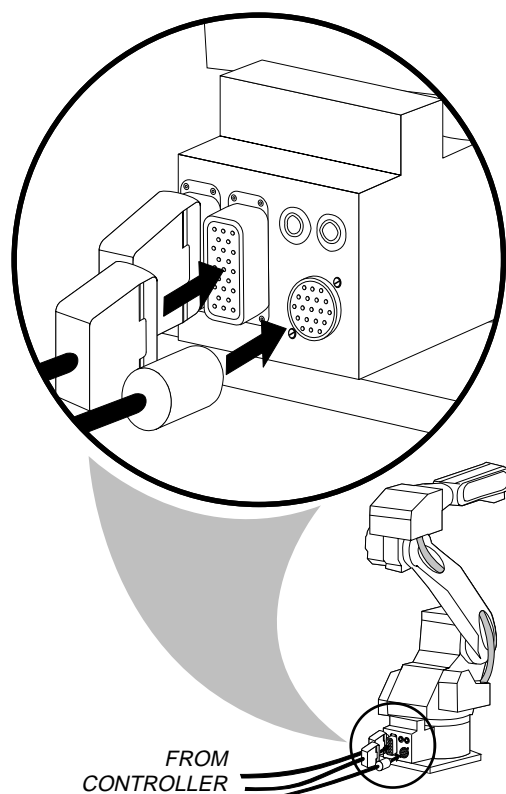

Figure 4-8 Connecting Robot to the Controller
3. Carefully engaging connectors, connect cables (labeled 1BC, 2BC, and optional 3BC) to 1BC, 2BC, and optional 3BC connections on back of robot (see Figure 4-8).